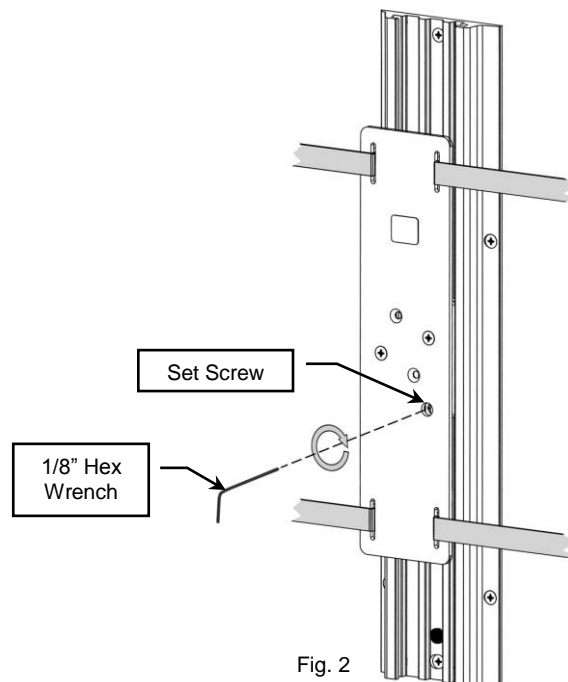

Fig. 2
2. Using a 1/8" Hex Wrench (supplied), tighten Set Screw to secure mounting position (Fig. 2).